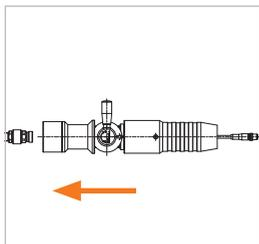

Figure 3
- ▶ Push the fueling nozzle onto the receptacle until it stops and hold the nozzle in this position (OFF position) (*Figure 3*).